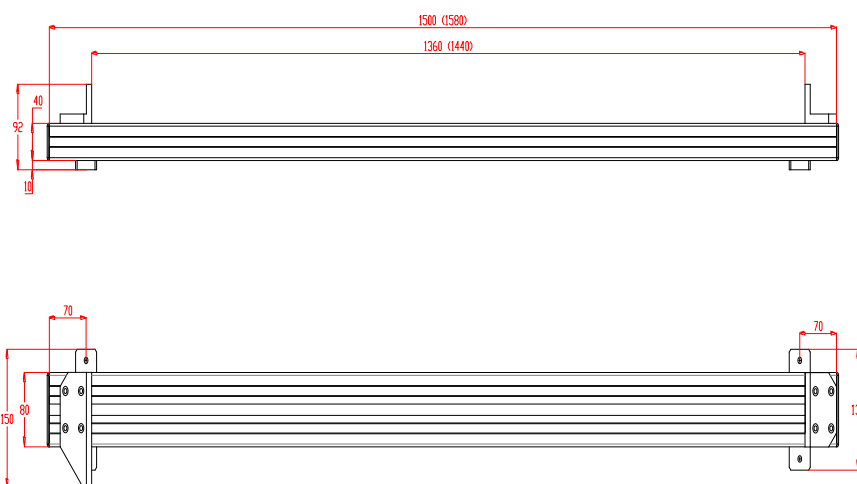

Figure 3
- Calibration tool RF260.90.000 fig.3;